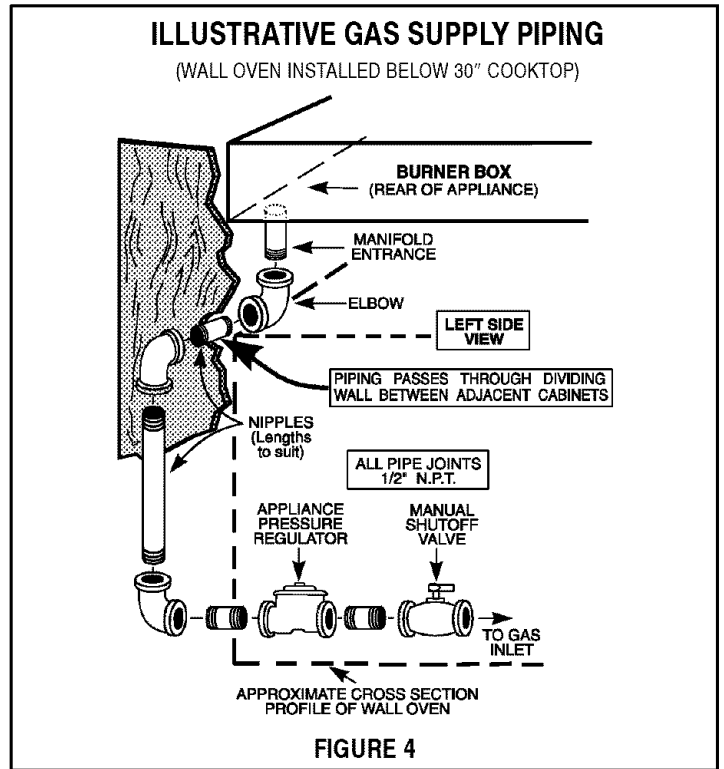

FIGURE 4
Note, regarding Figure 4, above:
- For convenience in service a ground joint union (not shown: locally available) should be included in the piping illustrated in figure 4, in a location most practical for the installation. Generally, a practical location is in the cabinet below this appliance, near the manifold entrance, rather than in an adjoining cabinet.
If the outlet is to be mounted in either a left or right adjacent cabinet, a clearance hole, as described above, must be provided in the dividing wall between the cabinets. Figure 4; page 3, illustrates a typical (left side) dividing wall. The clearance hole (not shown in figure 4) can be located as is convenient in this left wall or in the corresponding right wall.
With the appliance installed the appliance regulator should be located as shown in either figure 3 or figure 4 (page 3). Identify the type of appliance regulator and follow the instructions in the appropriate illustration.